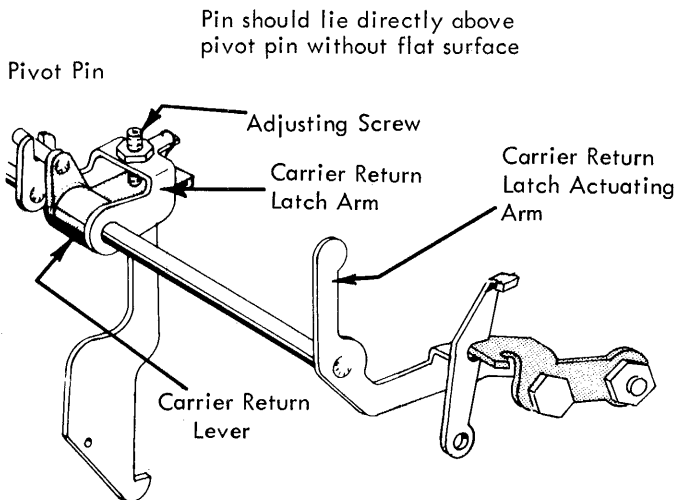

FIGURE 206. Clutch Latch Overthrow Adjustment (15 Inch Machine)
- a. Carrier Return Lever - Position the carrier return lever (Fig. 206) laterally on the latch actuating arm pin so that the carrier return latch will hang
- b. Carrier Return Latch Arm Adjusting Screw (overthrow) - With the carrier return cam on the high point adjust the latch arm adjusting screw (Fig. 206) so that the clutch latch will overthrow the latching surface of the keeper by .030" to .040". Be sure that the platen and feed rolls are installed and the index selector lever is in the double index position when checking this adjustment.